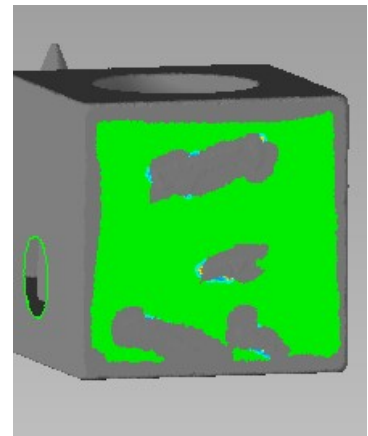

Figure 67
*The new display and information should reflect less deviation in the fitted feature as shown in Figure 67.*